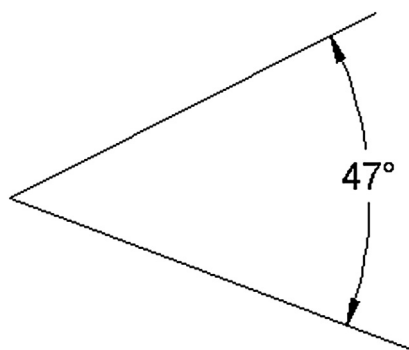

FIGURE 6.6
This is a dimension for angles between two lines or objects (Figure 6.6).
Step 1. Create two lines spread out at a random angle, as seen in Figure 6.6. Then, begin the angular dimension command via any of the preceding methods.